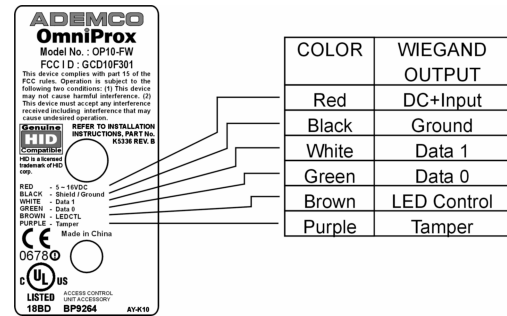

Figure 2
2. Splice the reader pigtail wires to the corresponding host wires and cover each connection (see Figure 2).
Figure 2 below shows how you should wire the reader to the host.